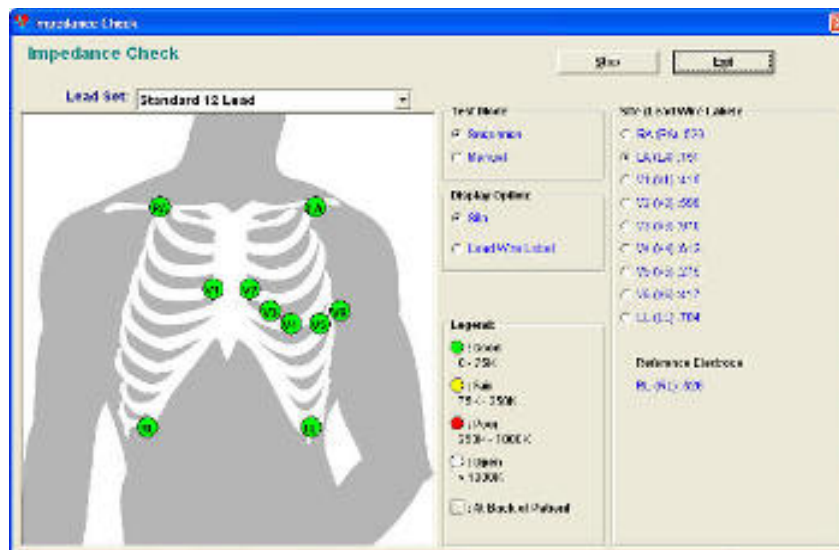

Figure 5-1: Example of the Impedance Check window
2. A window appears, showing the electrode connections (Figure 5-1).